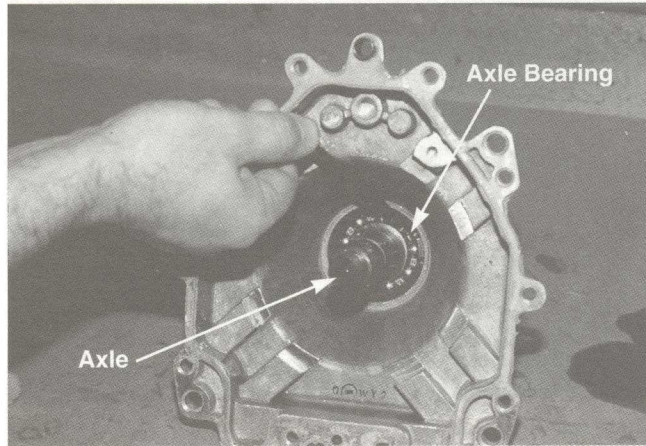

FIGURE 13.
13. The axle bearing is placed into the housing and is held by a snap ring that is used to keep the bearing in place under load. The axle is pressed through the bearing and is held in place by a smaller snap ring. See figure 13.